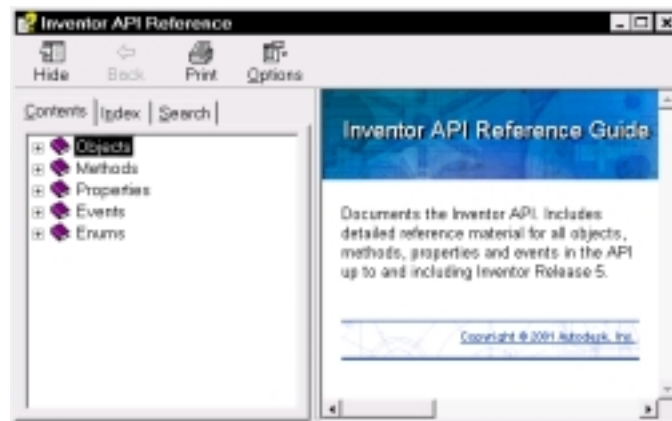

Figure 1-5
1. Select Programming Help from the Help pull-down menu. (See Figure 1-5.)